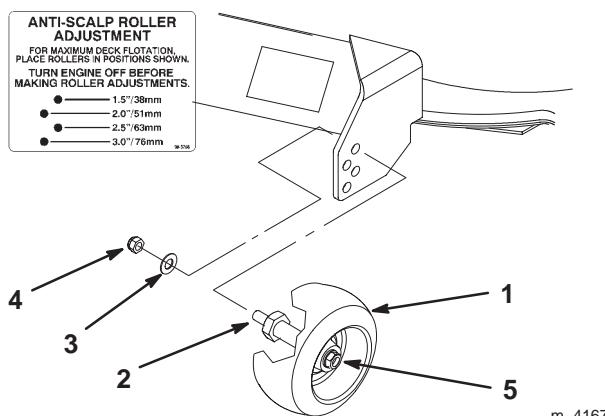

Figure 11
2. After adjusting the height-of-cut, remove the nut and washer while holding the stud with a wrench (Fig. 11).
**Note:** Do not remove the wheel nut and washer (Fig. 11).
3. Select a hole so that the gage wheel is positioned to the nearest corresponding height-of-cut desired (Fig. 11).
4. Install the stud nut and washer (Fig. 11).